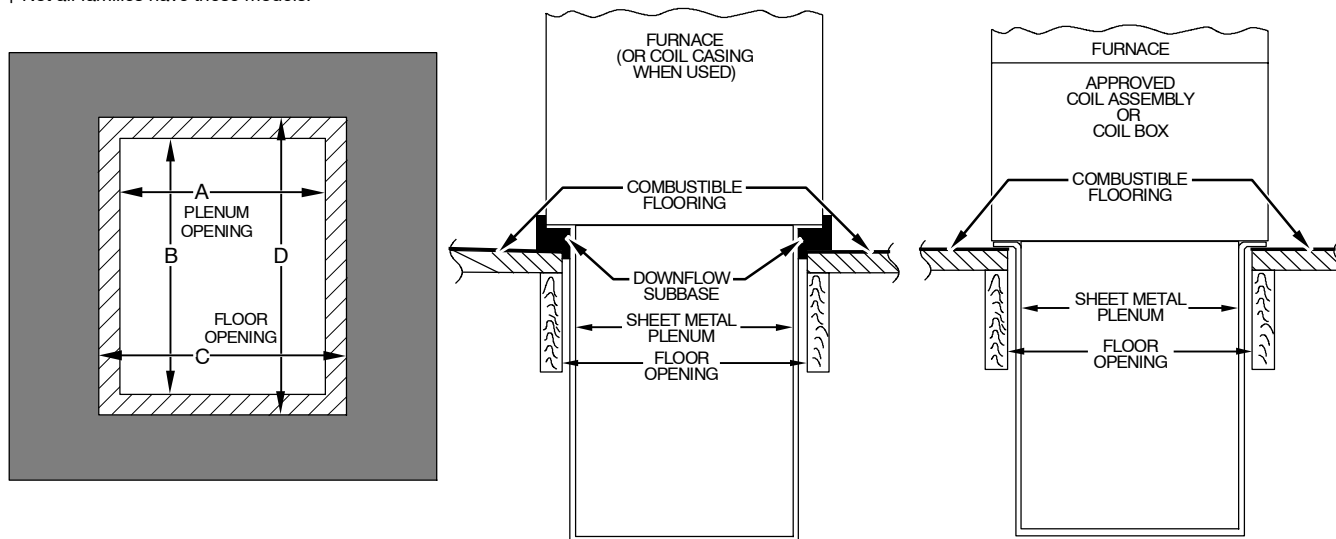

Fig. 25 - Installation on Combustible Flooring
2. Construct hole in floor per Table 5 and Fig. 25.
3. Construct plenum to dimensions specified in Table 5 and Fig. 25.
4. Install special base coil assembly or coil box as shown in Fig. 25.